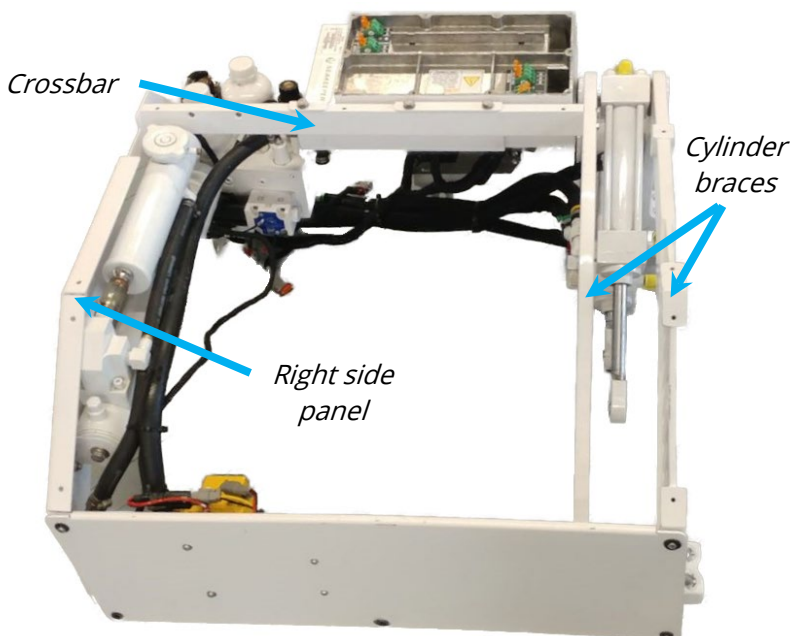

Figure 29: The upper foundation assembly of a Seakeeper
23. With two people, **LIFT** upper assembly (cylinder braces, brake system, side panels and crossbar, as applicable) as one assembly from foundation. (fig. 29)